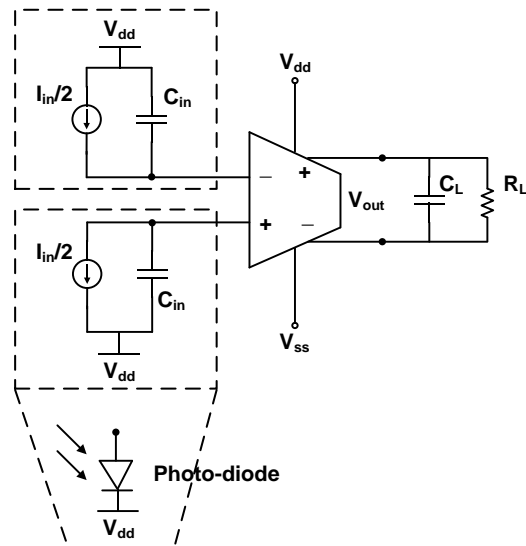
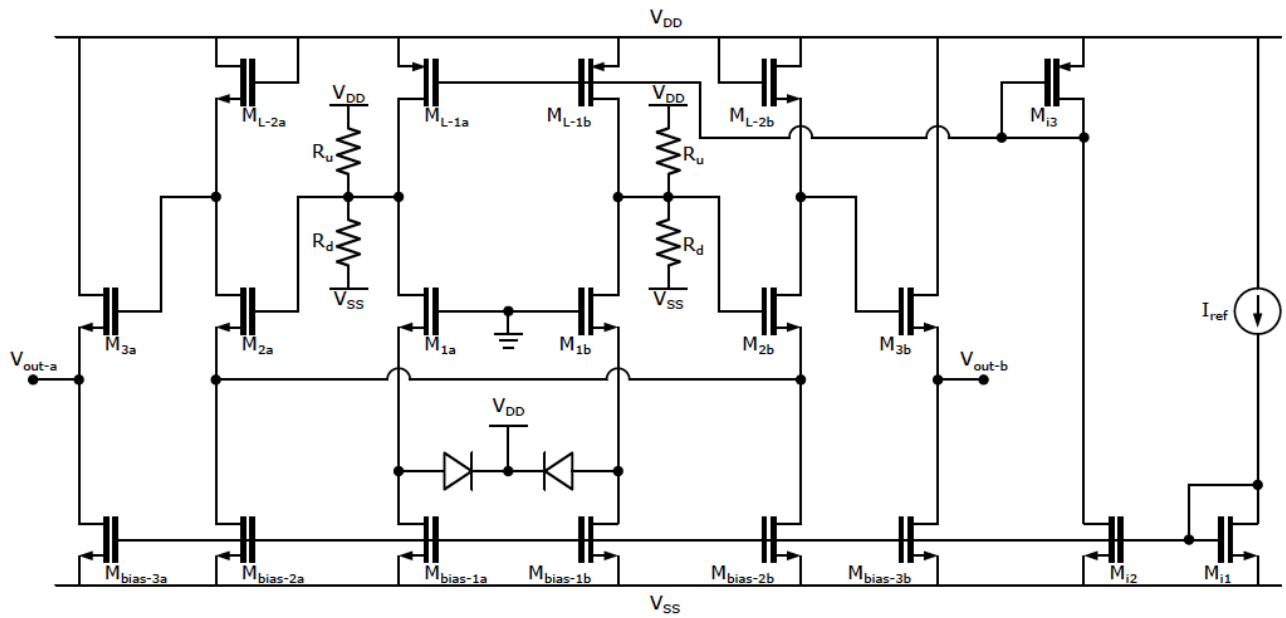

Figure 1: System-Level Block Diagram
Figure 2: Circuit Architecture
Your task in this project is to design a fully differential optical sensor circuit whose system-level block diagram is shown in **Figure 1**. The photodiode at the input is modeled as a small-signal current source in-parallel with a capacitor. The sensor circuit drives a differential RC load, which represents the loading from subsequent stages. You are provided with one ideal reference current source; you should mirror this current to generate the bias currents in your circuit. For the purposes of this project, the photodiode is assumed to be noiseless. The circuit architecture is shown in **Figure 2**. For the main part of the project, do not change this architecture (please see the end of this document for bonus parts).
- c) Familiarize yourself with the schematic in **Figure 2** and identify how the key blocks interact. Then, draw simplified differential half-circuit models of the circuit that will allow you to identify the main design knobs.